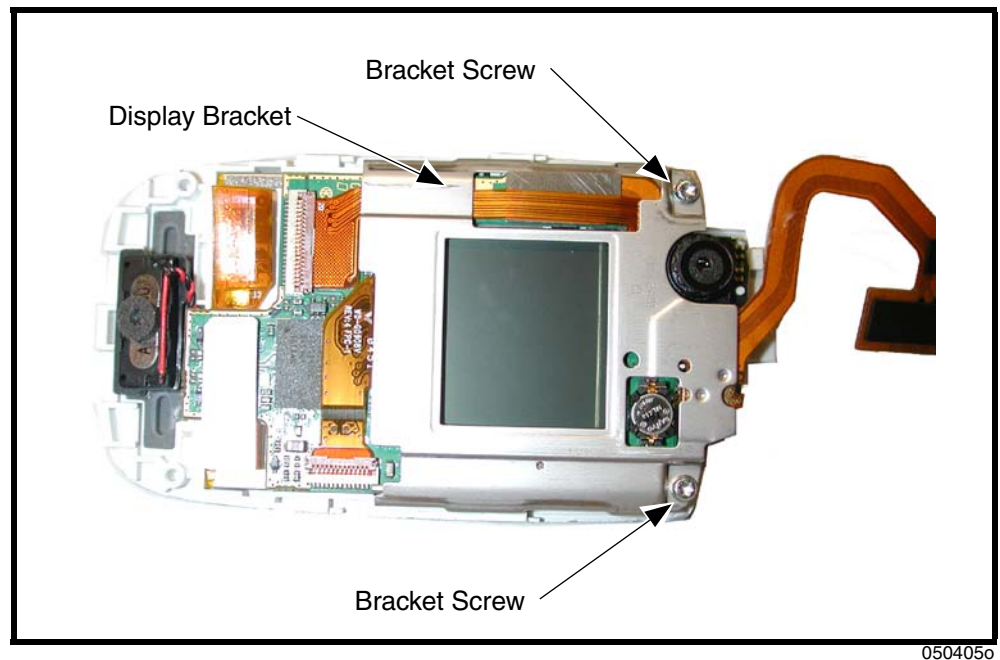

Figure 14. Removing the Flip Display Bracket Screws
5. Remove 2 T6 screws from the display bracket. Set the screws aside for reuse (see Figure 14).
6. Use the disassembly tool to release the latches on the sides of the display assembly (see Figure 14).